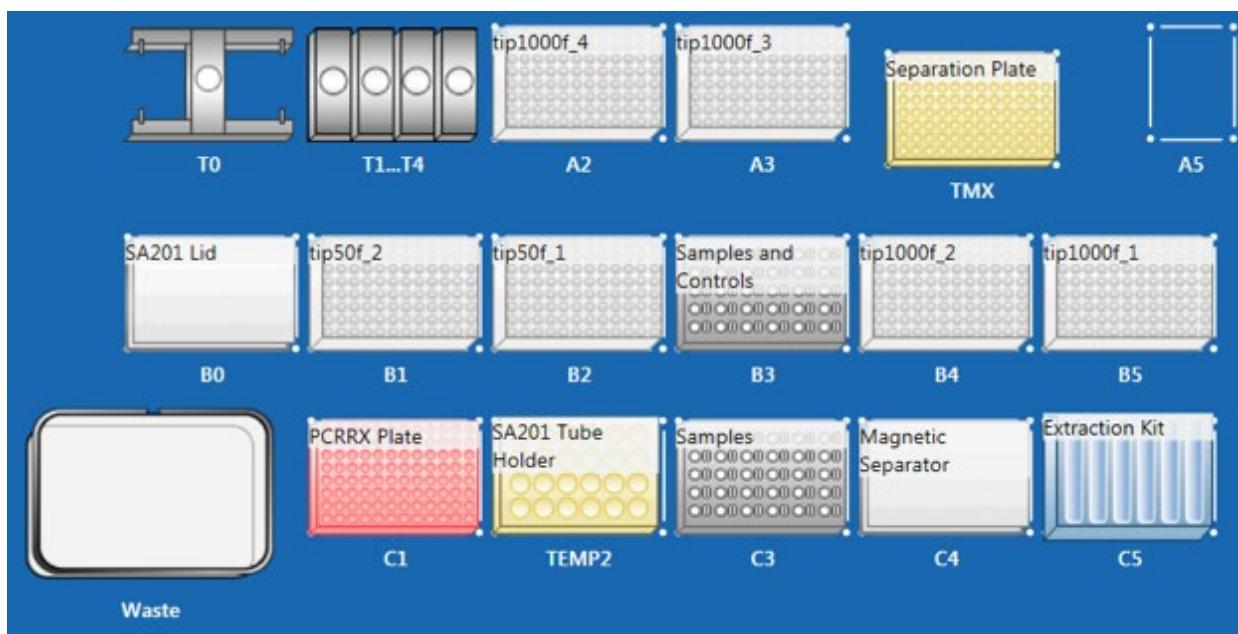

Figure 1. Layout of the Sentosa SX101 platform for 96 tests (for Sentosa SX101 only workflow)
Figure 1 shows the positions of consumables / labware on the *Sentosa SX101* platform. Double line the *Sentosa SX* Waste Bin with biohazard bags. Please refer to the layout as indicated by the *Sentosa SX101* instrument software or the appendix to load all items in the correct positions.
2.5. Place the correct Sentosa SX Reservoirs and Modules into positions 1 to 7 of the Sentosa SX Reservoir Rack 7 (refer to **Figure 1**, C5) according to the table below.
2.10. Set the MicroAmp Fast Optical 96-Well Reaction Plate with Barcode, 0.1 mL on the epMotion Thermoblock for PCR 96 Wells (Thermoblock PCR 96), and place the assembly on position C1 of the *Sentosa* SX101 platform (refer to **Figure 1**).
2.11. Load the *Sentosa* SX Non-Partition 1000 μ L Filter Tips, *Sentosa* SX Deepwell Plate 96/2000 μ L, *Sentosa* SX Non-Partition 50 μ L Filter Tips and *Sentosa* SX Magnetic Separator on the *Sentosa* SX101 platform. Please refer to the layout as indicated by the *Sentosa* SX101 instrument software (see **Figure 1**) or the appendix to load all items in the correct positions.